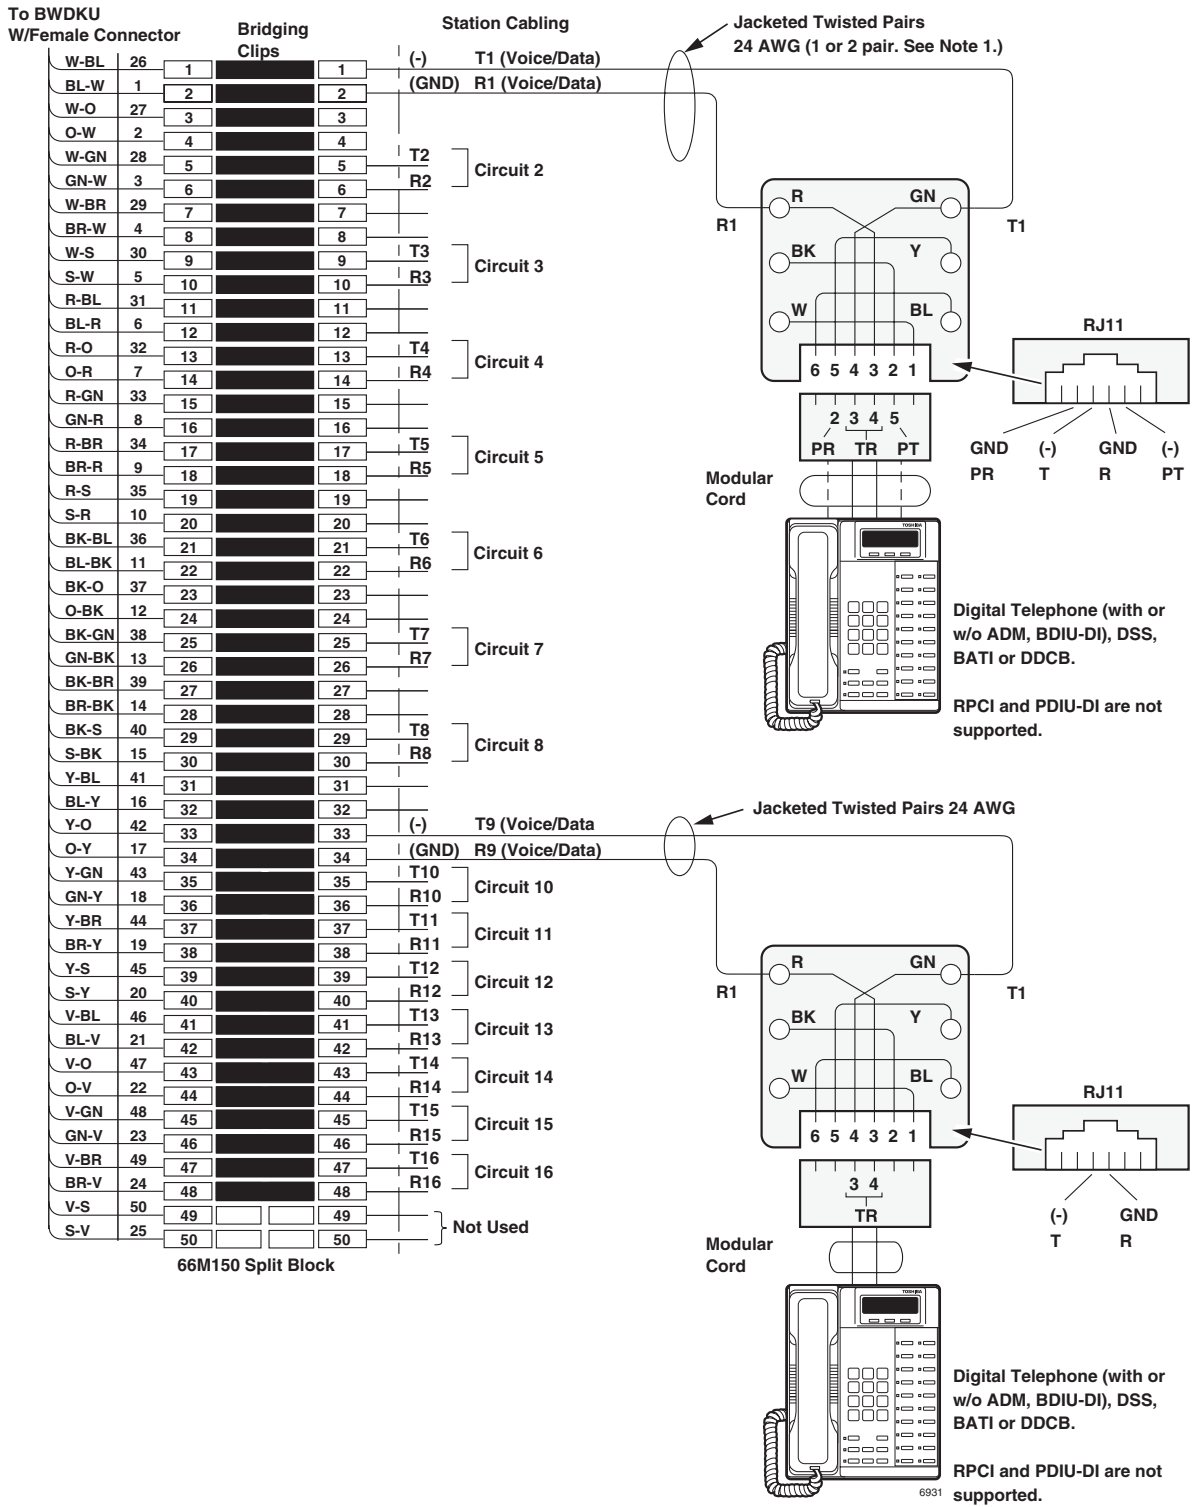

Figure 10-3 BWDKU Digital Station Wiring
2. One-pair wiring must be used with BWDKU and BDKS (see Figure 10-3 on page 10-6). The BWDKU and BDKS do not support two pair wiring.